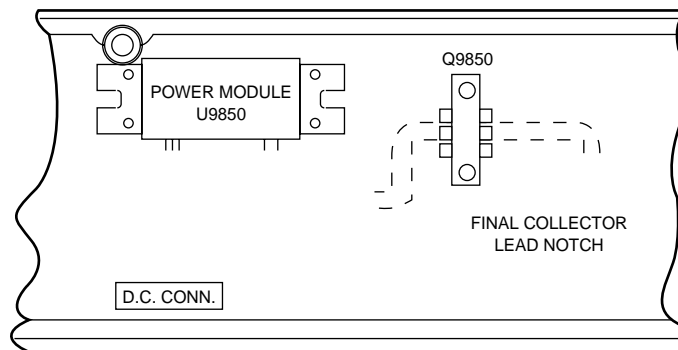

Figure 8-5. Installing the Final Device
9. 20- and 35-watt radios only (Figure 8-5): Solder the final device leads and five caps. Caps must be soldered flat to the board, and each cap surrounding the final device must be soldered as close to the device as possible.